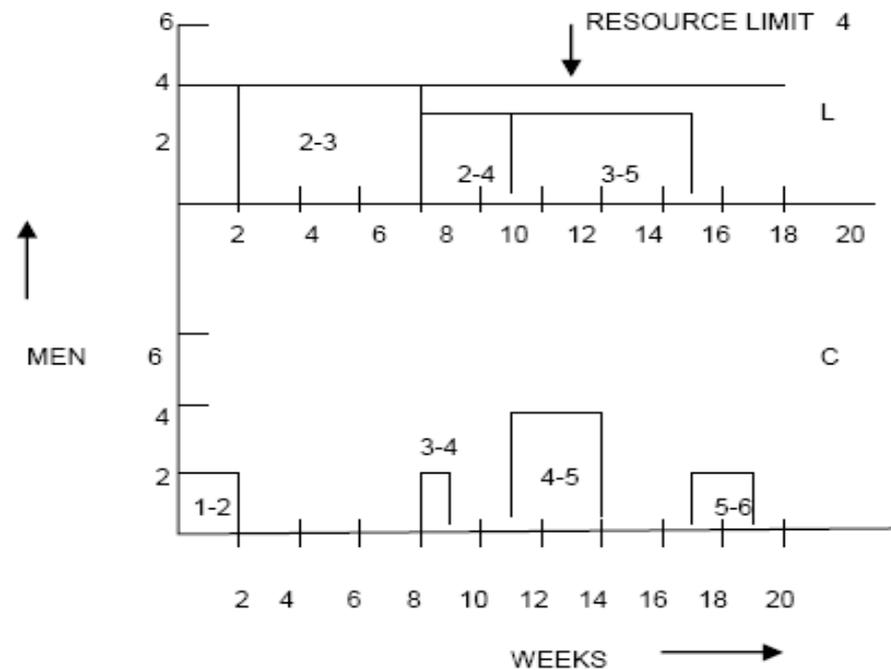

Fig. 5.9 Resource allocation for two resource types
- **Fig. 5.9 gives similar examples for two types of resource, for demonstration purposes the decision rule or priority sort used in this case are early start as the major sort and largest duration as the minor sort.**